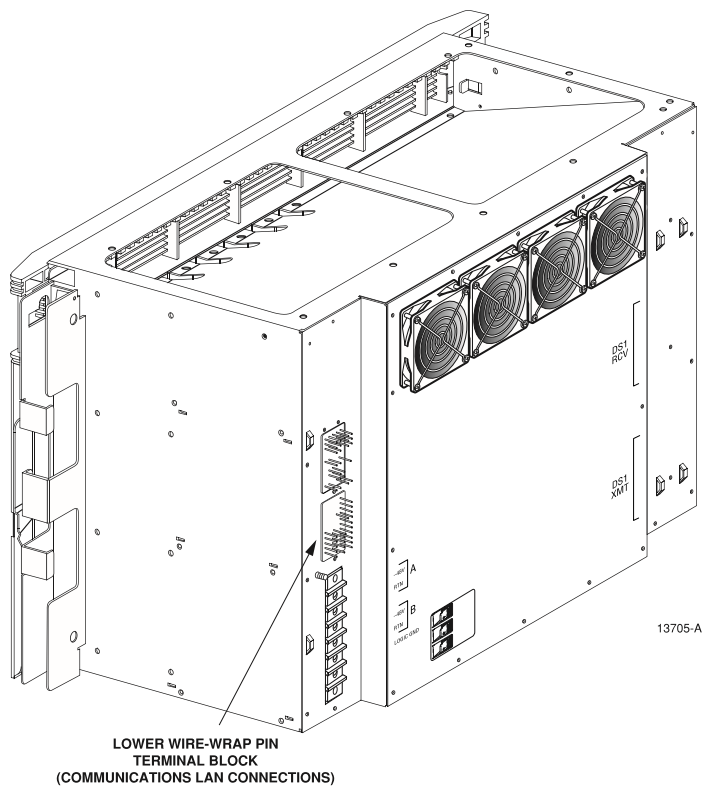

Figure 4-11. Lower Wire-Wrap Pin Block Location
2. Locate the lower wire-wrap pin block at the rear of the HDT chassis as shown in Figure 4-11.